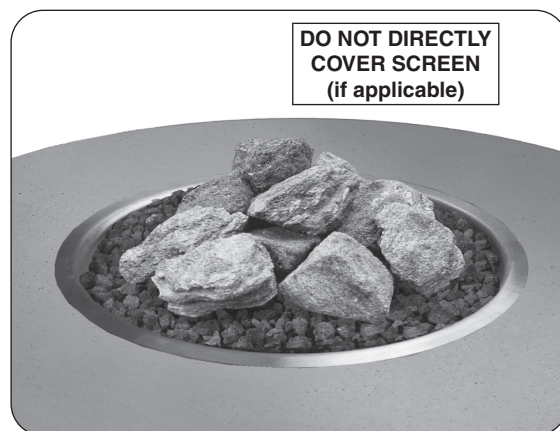

Fig. 39-2 Volcanic stones option
2. Pour the volcanic stones evenly into the burner area (see Fig. 39-2). The stones may form a mound. **Store any excess media in a safe location.**